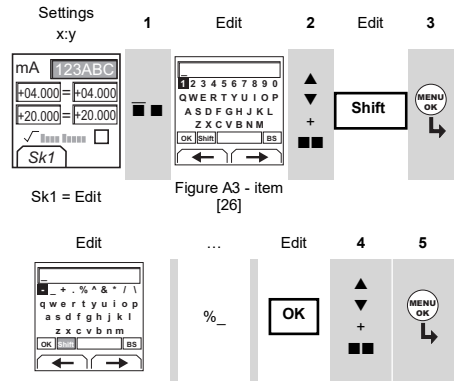

Figure A3 - item [26]
8.	Display. Refer to Figure A3.
Refer to Figure A3.